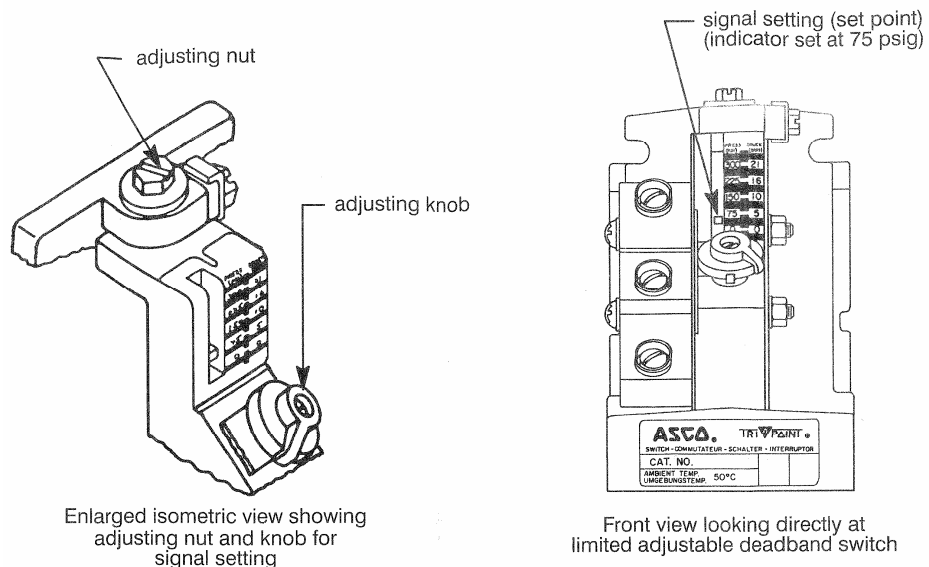

Figure 7.1: Pressure Switch
In the Centrox units, typically the normally open contact of the pressure switch is used for the wiring purposes. Please refer to the Figure 7.1 for the following adjustment procedure:
3. Turn adjusting nut at top of the switch clockwise until setting indicator is fully up. Turn deadband adjusting knob on front of the switch clockwise as far as possible. Refer to Figure 7.1.